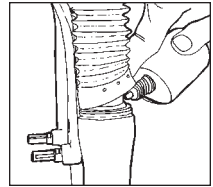

Fig. 5
1. Lift fork boots from lower tubes. Then wipe exterior surfaces, Resi-wiper seal area and upper tube clean. Apply 2-3 drops of Teflon-fortified oil to the upper tubes at the Resi-wiper. (See Fig. 5)